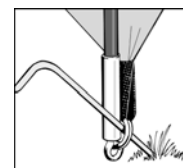

Figure 2.
2. Peg the corners of the tent through the metal rings using pin-pegs. It is important to drive the peg into the ground at a 45 degree angle to obtain the best grip. (See **Figure 2**).